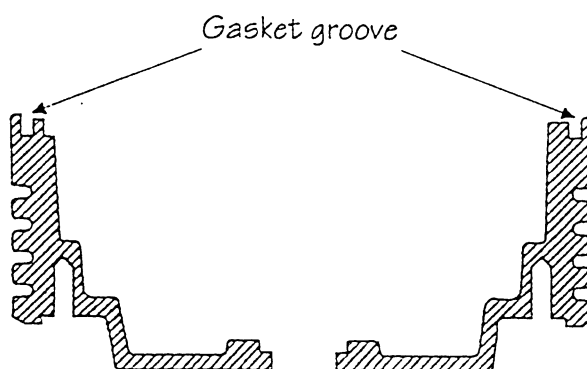

Figure 5.
6. Please turn the antenna upper part, up side down, and locate the black O-ring gasket (45-200824-137) in the groove. See Figure 5. to locate the gasket groove.